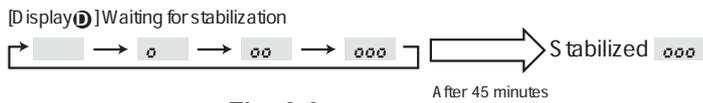

Fig. 8-3
③ Press **FILTER** (←) button to confirm. (Fig. 8-3)